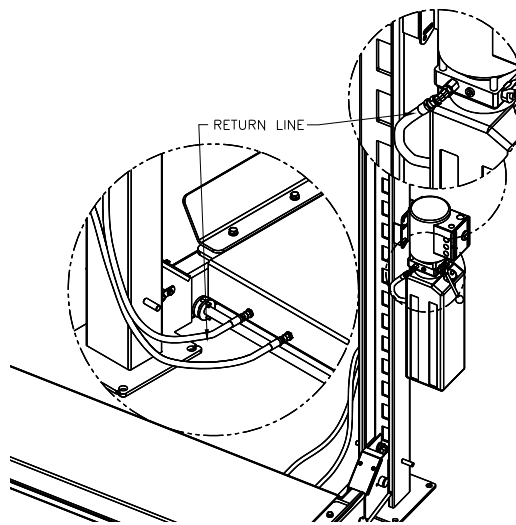

Fig 14 – Return Line, Front
- 32) Remove the 3/8-18 NPT plug on the side of the power unit and replace with the 3/8-18 NPT x 9/16-18 adapter and then attach the 90 degree elbow at a slightly downward angle. Secure the hose to the bulkhead shown in Fig 14.